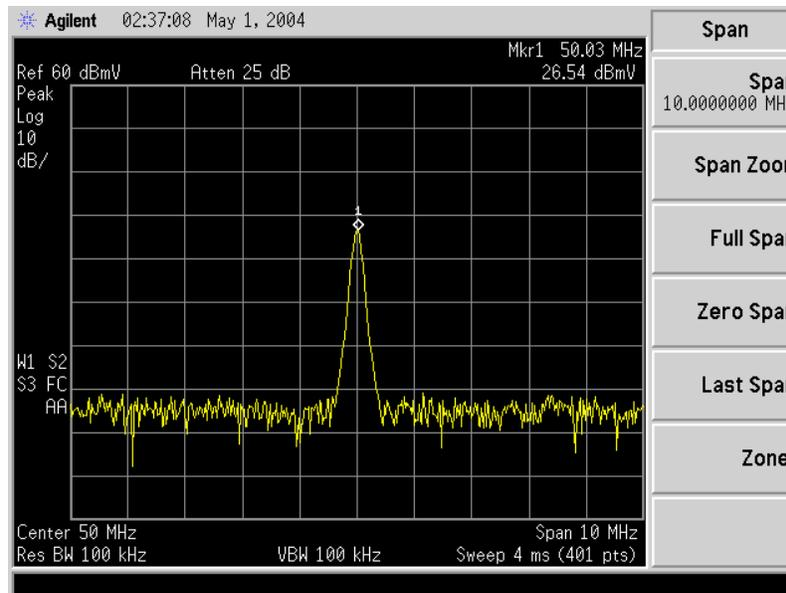

Figure 1. Spectrum Analyzer Display for reference signal.
1. The Spectrum Analyzer (SA) is an important tool for analyzing the frequency content of signals, and is a basic instrument of importance in a number of fields in electrical and computer engineering. This document is a quick start on using the Agilent SAs available in Room D115. Additional information on reading SA displays is available in the PowerPoint document “Reading SA Displays”.
4. The next setting to adjust is the reference level, which sets the signal power level corresponding to the top line of the display. There are two settings to be adjusted here. First, set the units for the display. Suppose we wish to use dBmV. Press the AMPLITUDE button, then press MORE, then Y AXIS UNITS. Select DBMV. Next, set the reference level to a convenient value. For example, 60 dBmV corresponds to 1 Vrms. Press the AMPLITUDE button, then press REF LEVEL, and enter “60 dBmV”. Now the top line of the display corresponds to a signal level of 60 dBmV. Your display should look like that shown in Figure 1 below.